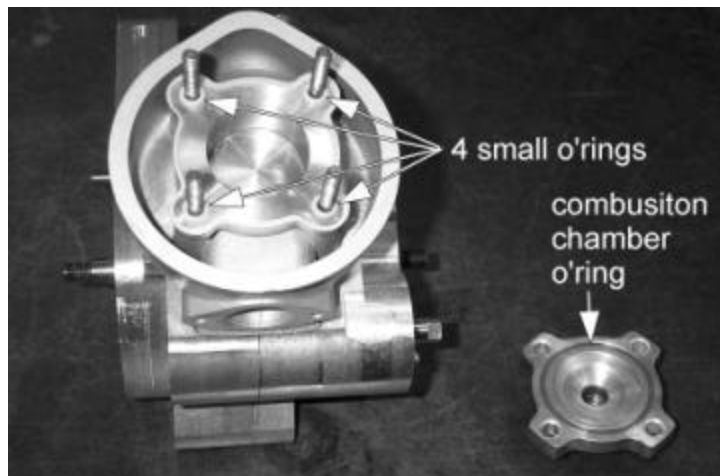

Figure 13
20. Install the cylinder studs and o'rings as shown in figure 13